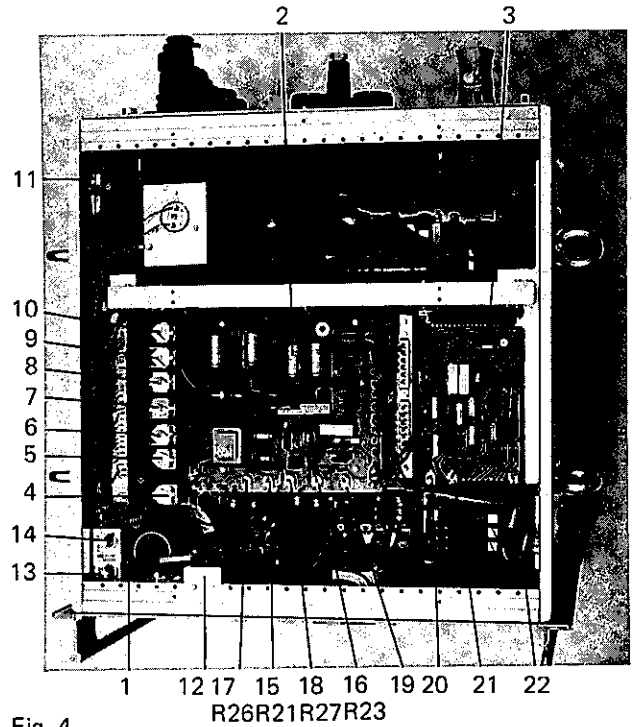

Fig. 4
- 3 Control lamp for external interlock circuit (AUXIL). The interlock circuit AUXIL permits the installation of an additional interlock contact in the control circuit. This can be done either over the terminal box (refer to the specific gun connection plan for each coating system) or over plug J12 (AUXIL) on the back panel. If the interlock contact for AUXIL is made in the terminal box, then plug J12 must be disconnected. There are also 2 safety switches (refer to Item 11 and Item 12 in Fig. 4) in this circuit.